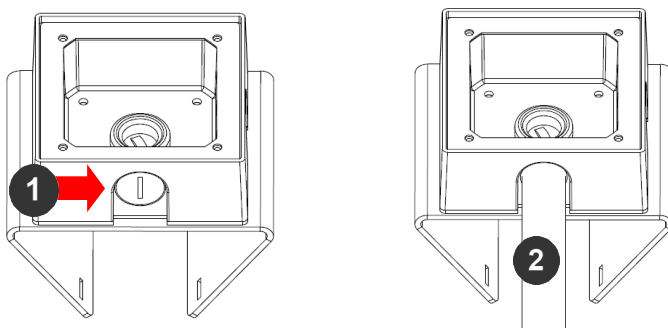

Figure 15: Attach conduit to SV-JBA junction box adapter
3. Attach the SV-JBA (Junction Box Adapter) to the Pole Mount Adapter (Figure 15).
4. Remove the conduit plug on the junction box adapter and connect $\frac{3}{4}$ " NPT conduit to the junction box adapter (Figure 15).